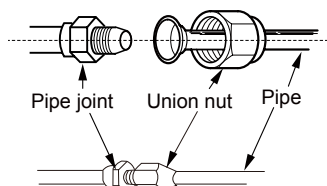
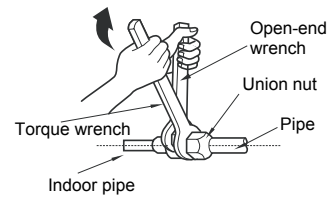

Fig. 5
Fig. 6
(1) Aim the pipe joint at the corresponding bellmouth. (As show in Fig.5)
(2) Pretightening the union nut with hand.
(3) Adjust the torque force by referring to the following sheet. Place the open-end wrench on the pipe joint and place the torque wrench on the union nut. Tighten the union nut with torque wrench. (As show in Fig.6)